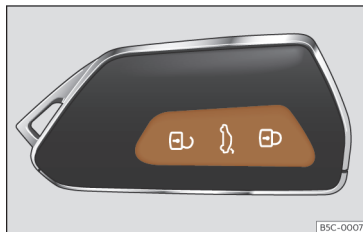

Fig. 76 Remote control key: keys.
- Lock: press the  button >>> **Fig. 76**.